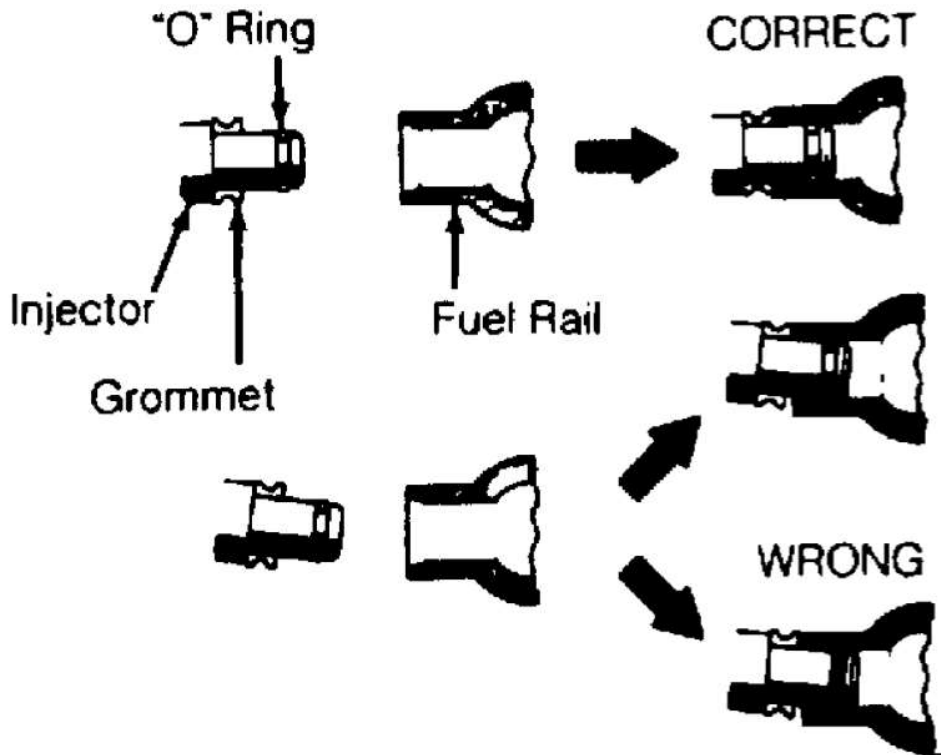

Fig. 3: Proper Injector Installation Into Fuel Rail (Typical)
2) Install fuel injectors into fuel rail by turning/twisting fuel injector from left to right in order to bottom injector into fuel rail. See Fig. 3. Place 4 NEW insulators and 2 NEW spacers into position on cylinder head. Insert fuel rail/injector assembly into insulators on cylinder head. Verify fuel injectors rotate smoothly in insulators.